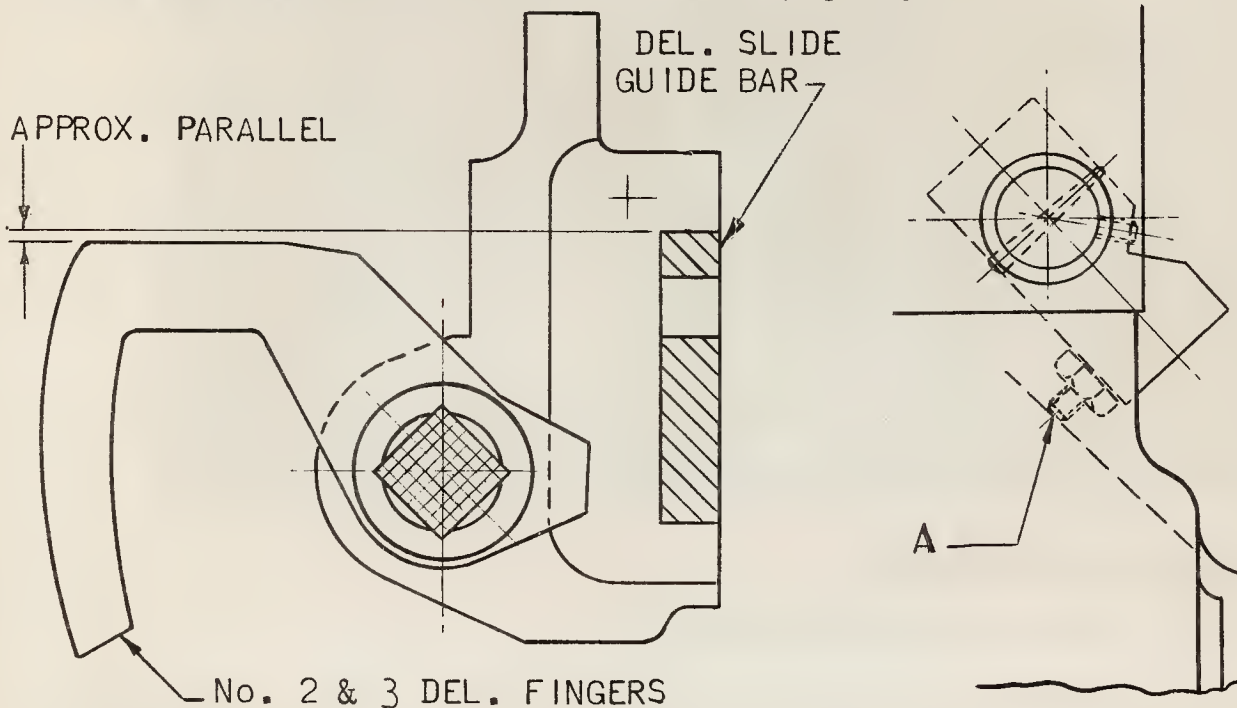

FIG. 20
(B) No. 2 and 3 Finger Down Position Adjustment (Fig. 20)
The vertical bank screw (A) at left-hand end of square shaft, Fig. 20, should be adjusted so that the top of the No. 2 and 3 fingers are approximately parallel to the top of the delivery slide bar; when these fingers are in their down position. A check should be made to make sure that the No. 2 finger is engaged by the No. 2 and 3 finger cam latch (Fig. 24).